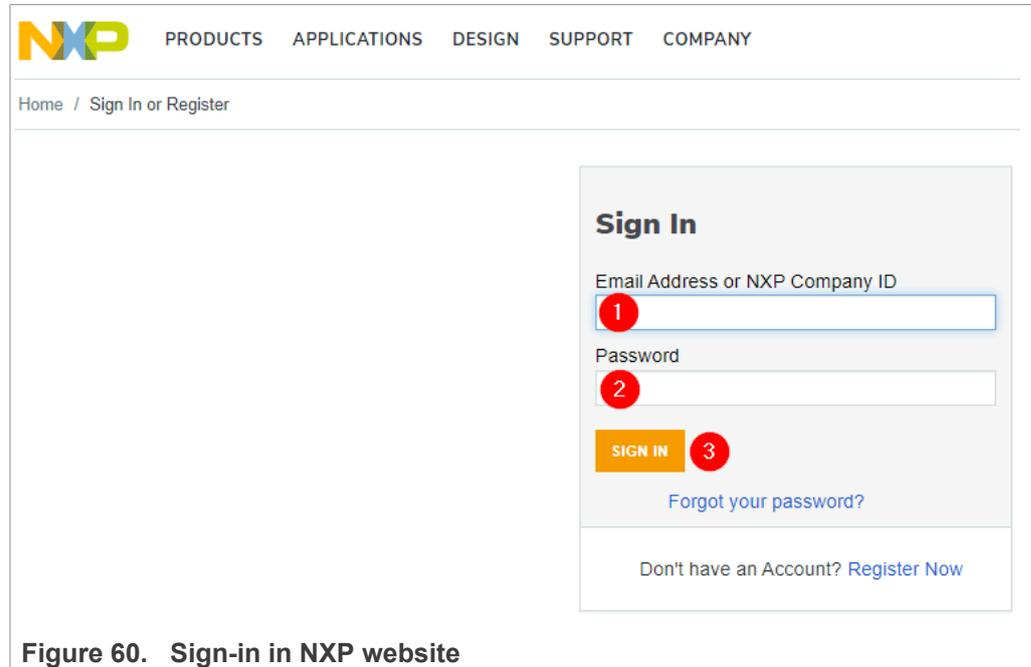

Figure 60. Sign-in in NXP website
- If you already have an account, you can directly type your (1) email address, (2) password and (3) click sign-in button as shown in Figure 60: